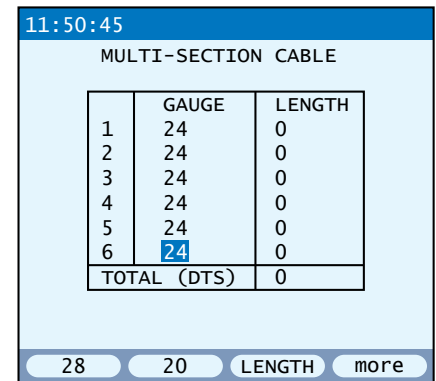

Figure 31 Multi-Section Cable Setup Screen
**START (F4):** After connecting to the circuit as shown Section 4.2, press START (F4) in the top left screen to begin. As shown in Figures 31 and 32, the screen displays “PLEASE WAIT MEASUREMENT IN PROGRESS”. Once the measurement has completed, either an error or a results screen is displayed, with new F-keys.